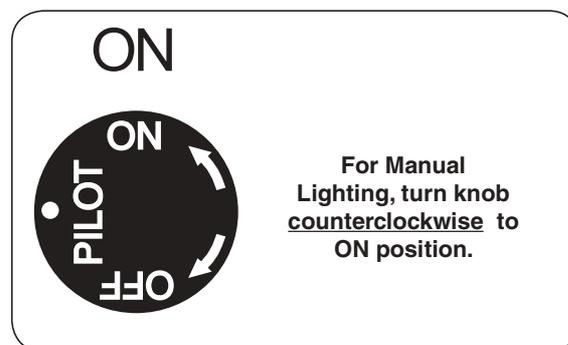

Fig. 23-3 Control knob detail (ON)
2. Turn the gas control knob counterclockwise to **ON** (Fig. 23-3) to ignite the burner. The valve will open and the burner will light.